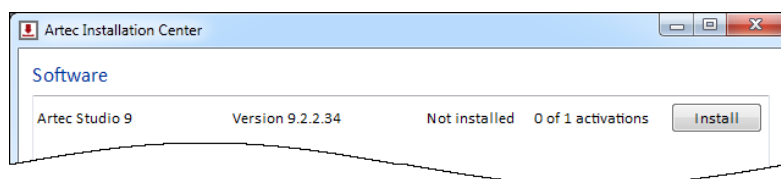

Figure 4.6.: Artec Installation Center is ready to install Artec Studio.
- Through Artec Installation Center (either during the installation process or by clicking *Install* in the application, as Figure 4.6. shows)